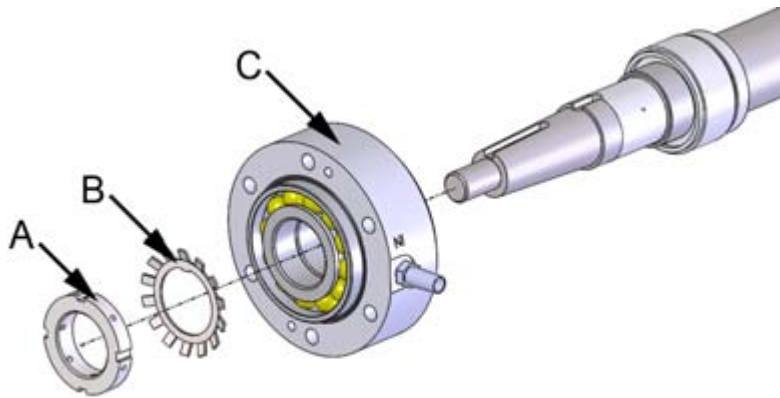

Figure 8. Removing the bearing from the shaft
11. Remove the shaft nut and lock washer (figure 8, points A and B).
12. Pull the bearing housing off the shaft (figure 8, point C).